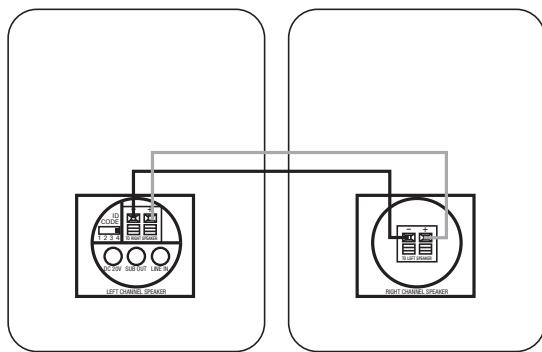

Figure 3.
See Figure 3. Please note that the speaker wire supplied features a polarity stripe to help distinguish its two conductors. Use this polarity stripe to ensure that you are connecting the positive (+) terminal on one speaker to the positive (+) terminal on the other, and the negative (-) to the negative (-). It does not matter whether you use the striped conductor for connecting the positive (+) terminals or the negative (-) terminals.
Step 3. Connect the speaker wire (included) to the push terminals on the active speaker **6** and the push terminals on the rear of the passive speaker **10**, as shown in Figure 3. Please note that the speaker wire supplied features a polarity stripe to help distinguish its two conductors. Use this polarity stripe to ensure that you are connecting the positive (+) terminal on one speaker to the positive (+) terminal on the other, and the negative (-) to the negative (-). It does not matter whether you use the striped conductor for connecting the positive (+) terminals or the negative (-) terminals.
Step 3. Connect the speaker wire (included) to the push terminals on the active speaker **⑥** and the push terminals on the rear of the passive speaker **⑩**, as shown in Figure 3. Please note that the speaker wire supplied features a polarity stripe to help distinguish its two conductors. Use this polarity stripe to ensure that you are connecting the positive (+) terminal on one speaker to the positive (+) terminal on the other, and the negative (-) to the negative (-). It does not matter whether you use the striped conductor for connecting the positive (+) terminals or the negative (-) terminals.
Step 4. Plug the transmitter module **⑫** and active speaker **⑦** into the wall outlet, using the correct power supply and power cord. Make sure the transmitter's antenna **⑪** is extended upward.